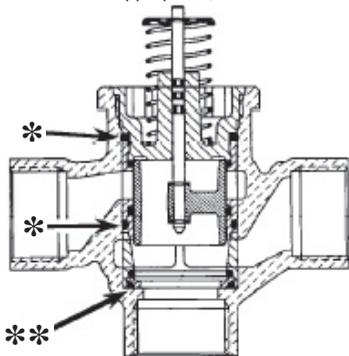

Figure 3
6. Clean the valve surfaces marked * and ** in Figure 3 to ensure the new cartridge O-rings seal at these points. Use care to avoid damage to these surfaces (** for 3-way valves only).
8. Replace valve actuator by reversing the process in (4).